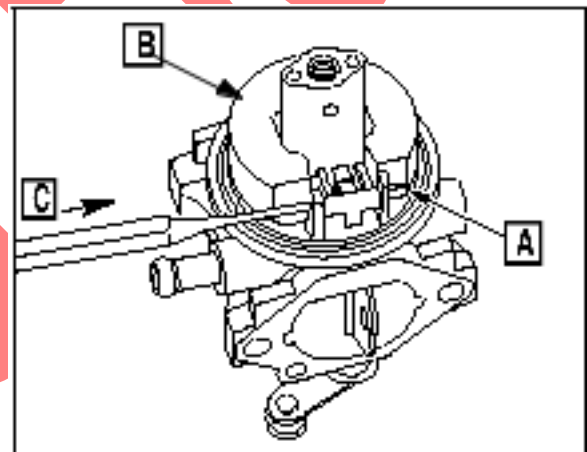

Fig. 127
Remove float hinge pin (A), float ([B] Fig. 127), and inlet needle.
Tap the end opposite the flats with a center punch ([C] Fig. 127) until it is loose.